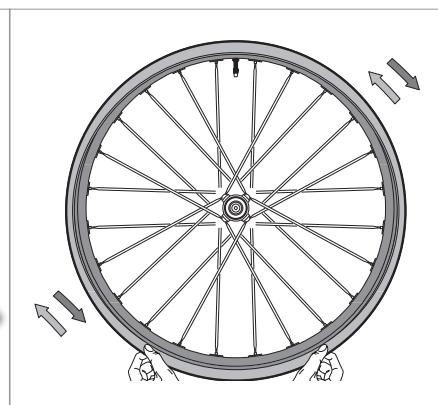

Fig.20
- Rotate and shake the wheel so the liquid can seal all its inner surface. Apply water and soap on the cover and check for any bubbles, which would indicate air leaking from the cover. Position the wheel so that the liquid will flow to the area of the air leak, so the liquid can block it (Fig.20).